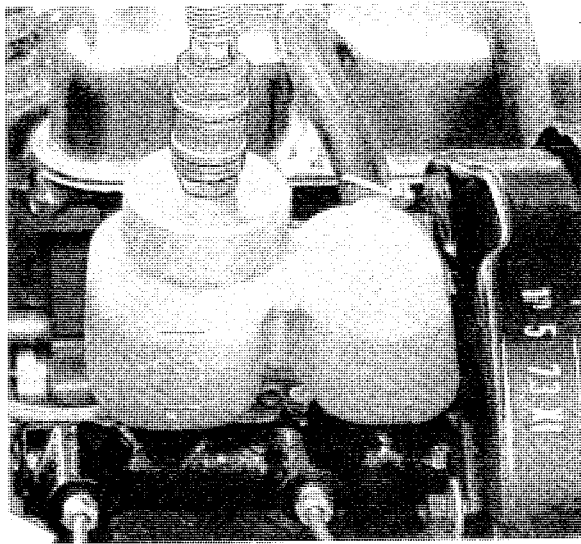

Fig. 5-61. Connecting bleeder unit
4. Fit on the container a cap specially used when bleeding, see Fig. 5-61. Connect the bleeder unit according to the instructions of the manufacturer. The working pressure is 2 kp/cm2 (28.4 psi). The type of bleeder unit which may be used is shown in Fig. 5-5.